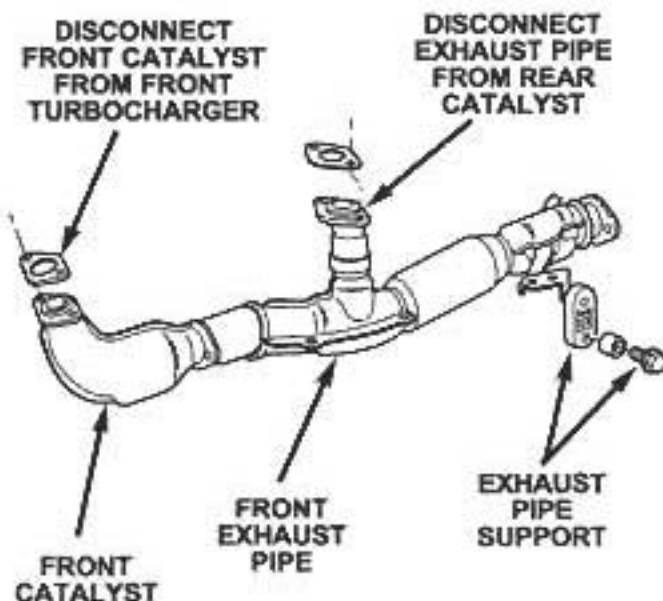

Figure 26
3. Remove the two nuts that secure the exhaust pipe to the rear turbocharger-mounted catalytic converter (Figure 26). Discard the nuts.
4. Remove the two nuts that secure the front catalytic converter to the turbocharger outlet (Figure 26). Discard the nuts.
5. Disconnect the front exhaust pipe support (Figure 26). Disconnect the front exhaust pipe and temporarily support the front exhaust pipe with a wire or bungee cord.
18. Remove the temporary exhaust pipe support and then using the supplied exhaust gaskets and nuts, reconnect the front exhaust pipe to the front turbocharger outlet and the rear catalytic converter (Figure 26). Tighten the exhaust nuts to 37 ft-lbs (50 N·m).
19. Connect the front exhaust pipe support (Figure 26).